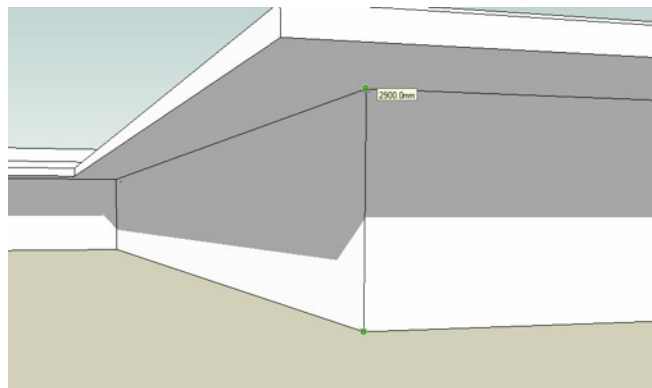

Figure 32. Checking the building height from ground to underside of the parapet
- **Zoom** and **Orbit** into the corner of Building 1 and check the height of the wall from ground level to the underside of the parapet as shown in Figure 32. It should be 2900mm.